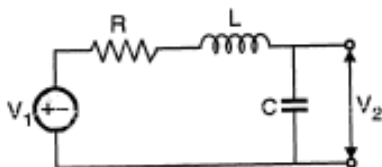

Figure 3
- 8. a) For the series RLC circuit shown in Fig. 3, find transfer function. Calculate the sensitivities of K, the resonant frequency  $\omega_p$ , the quality factor ( $Q_p$ ) with respect to R, L and C. Comment on the result obtained. 6